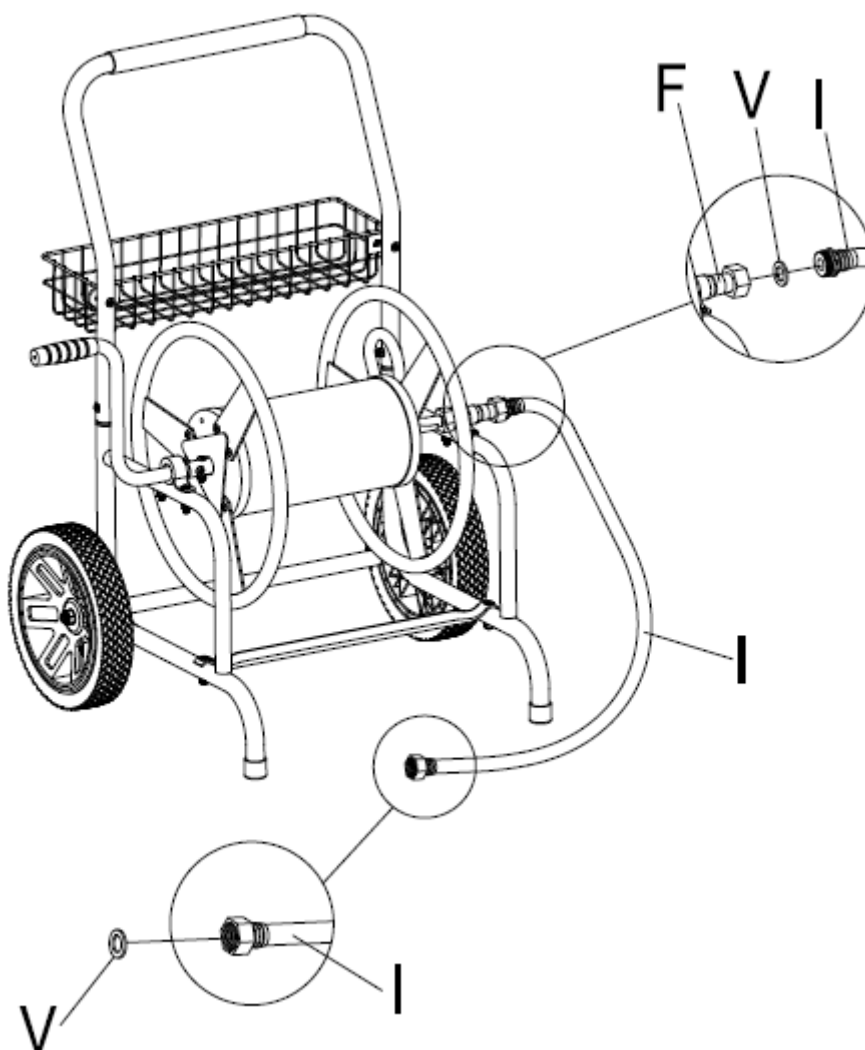

Figure 11
Step 11: Insert the Rubber Washer (V) into the inlet tube female coupling. Attach the male coupling on the Leader Hose (I) to the inlet tube on the female coupling. See Figure 11. Attach the Leader Hose (I) to your faucet.